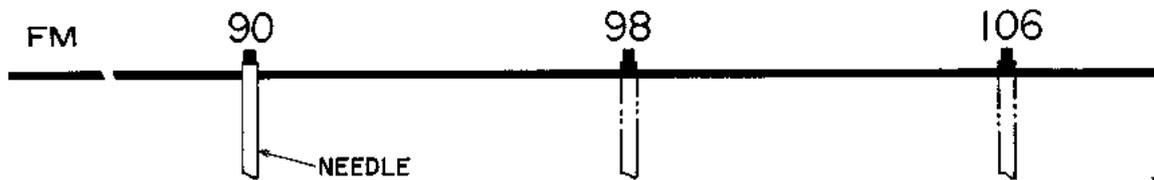

Fig. 10
- 3) Set Receiver SELECTOR to FM AUTO, and tuning indicator needle to 90 MHz. (Refer to Fig. 10)
- 5) Set the oscillation frequency of FM S.G. and tuning indicator needle to 106 MHz. (Refer to Fig. 10)
- 3) Set the oscillation frequency of the FM S.G. to 90 MHz (400 Hz, 100% internal modulation), set Receiver SELECTOR to FM AUTO, and set the tuning indicator needle to 90 MHz. (Refer to Fig. 10)
- 6) Set the oscillation frequency of FM S.G. and tuning indicator needle to 106 MHz. (Refer to Fig. 10)
- 9) Set the oscillation frequency of FM S.G. and the tuning indicator needle to 98 MHz. (Refer to Fig. 10)